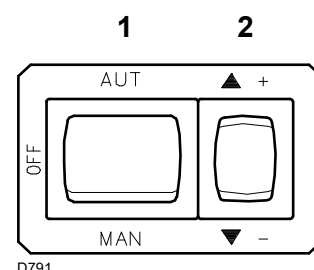
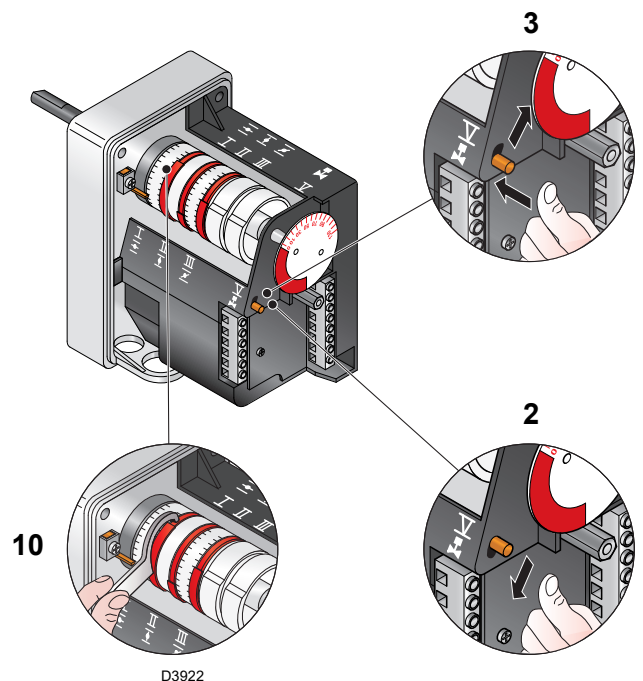

Fig. 27
Fig. 29
Close the thermostats/pressure switches and turn the switch of Fig. 27 to position "MAN".
Now press the button 2)(Fig. 27) "output increase", and keep it pressed until the servomotor has opened the air damper and the gas butterfly valve.
Press the button 2)(Fig. 27) "output reduction", and keep it pressed until the servomotor has closed the air damper and the gas butterfly valve at 65° (adjustment made in the factory).
- If it is necessary to reduce it, reduce slightly the angle of cam III (Fig. 29) with small, regular movements, i.e. bring it from an angle of 65° to 63° - 61°....
- If it is necessary to increase it, press slightly the button "output increase" 2)(Fig. 27) (open by 10-15° the gas butterfly valve), increase the cam III angle (Fig. 29) with small, regular movements, i.e. bring it from an angle of 65° a 67° - 69°....
Press slightly the button "output increase" 2)(Fig. 27) so that the servomotor rotates by 15°. Adjust the screws until optimal combustion is obtained. Proceed in the same way with the other screws. Take care that the cam profile variation is progressive. Switch the burner off with switch 1)(Fig. 27), OFF position. Release cam 4 from the servomotor by pressing and shifting button 3) to the right, and check several times that by rotating cam 4 forwards and backwards by hand, the movement is soft and smooth, without jamming.